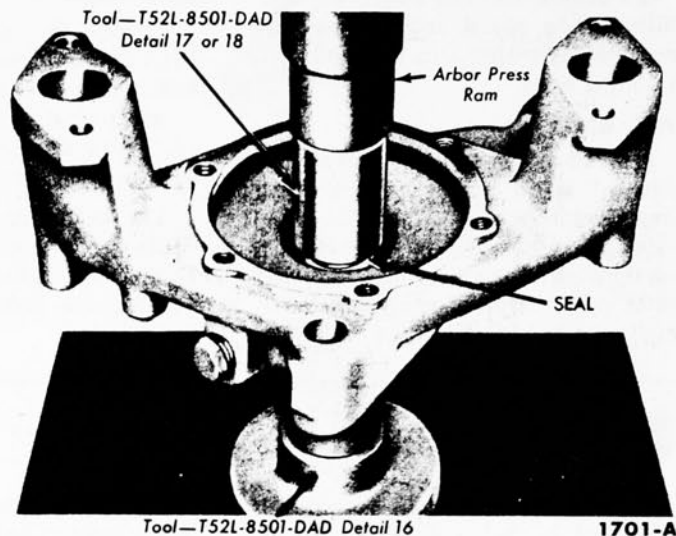

FIG. 9—Seal Installation
3. Apply a light film of waterproof sealer on a new seal and press the seal into the housing (Fig. 9).